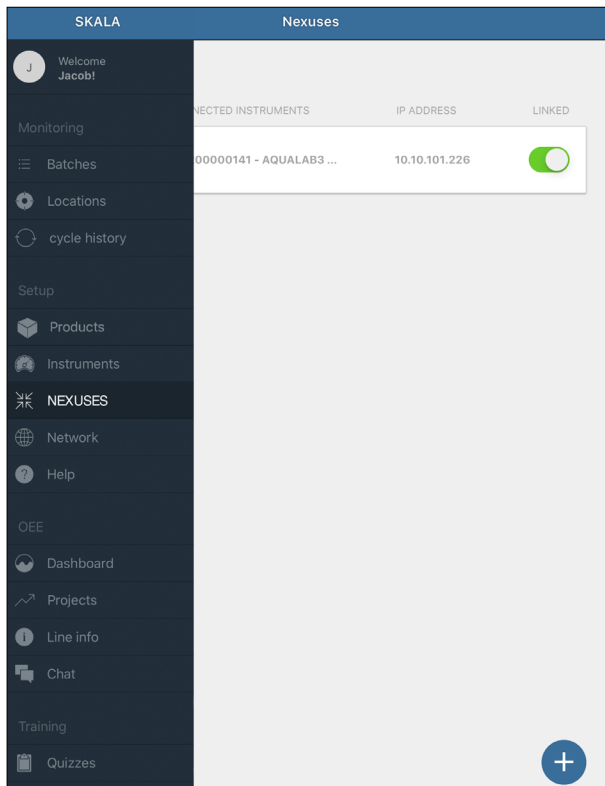

Figure 27 NEXUSES window
2. Select NEXUS in the menu under Setup to open a window with a list of currently registered NEXUSES (Figure 27).
3. Select the plus symbol on the NEXUSES screen to register another NEXUS (Figure 27).